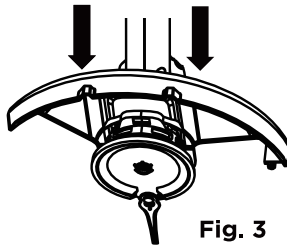

Fig. 3
- b.** Push the middle buckle forward in the direction as shown until you hear a click, indicating that the installation is complete. (Fig. 3)